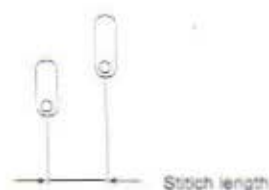

Fig 30
26、 Replacement of throat plate: (Fig.30)
The standard size of the throat plate in parts book, which is stipulated by the manufactory, is 1/4" ,equivalent to 6.4mm.(Fig.30)